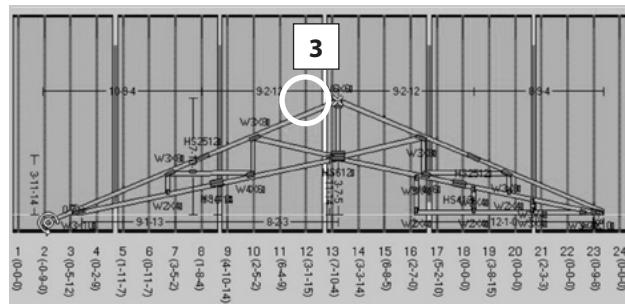

Figure 36
3. Click to select the reference point (rotate from) (Figure 36)